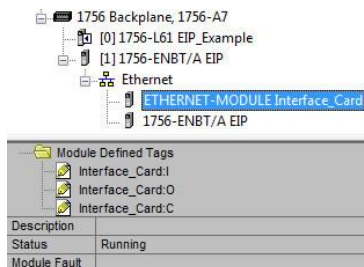

Figure 39: Online Module Status
- 7) Switch to online mode and download the project to the PLC. Verify that the newly-added inverter is available and operating correctly by observing any indications shown on the inverter's icon. When the inverter's icon is selected, its status and any available error messages will be displayed in the area below the project tree. Refer to Figure 39. Also confirm that the interface card's “Network Status” LED should be solid green, indicating an “online/connected” state.